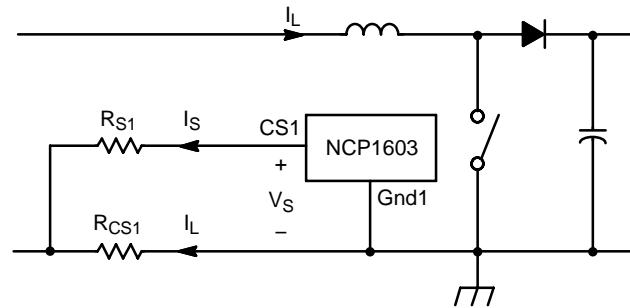

Figure 64. Current Sense in PFC Section
The PFC section senses the inductor current  $I_L$  by the current sense scheme in Figure 64. This scheme has the advantages of: (1) the inrush current limitation by the resistor  $R_{CS1}$ , and (2) the overcurrent protection and zero current detection implemented in the same pin.
Inductor current  $I_L$  passes through  $R_{CS1}$  and creates a negative voltage. This voltage is measured by a current  $I_S$  flowing out of the CS1 pin (Pin 11). CS1 pin has an offset voltage  $V_S$ . This offset voltage is studied in the setting of zero inductor current  $I_{L(ZCD)}$  and the maximum inductor current  $I_{L(OCP)}$  (i.e., overcurrent protection threshold). A typical variation of offset voltage  $V_S$  versus sense current  $I_S$  is shown in Figure 35. Based on Figure 64, Equation 20 is derived.